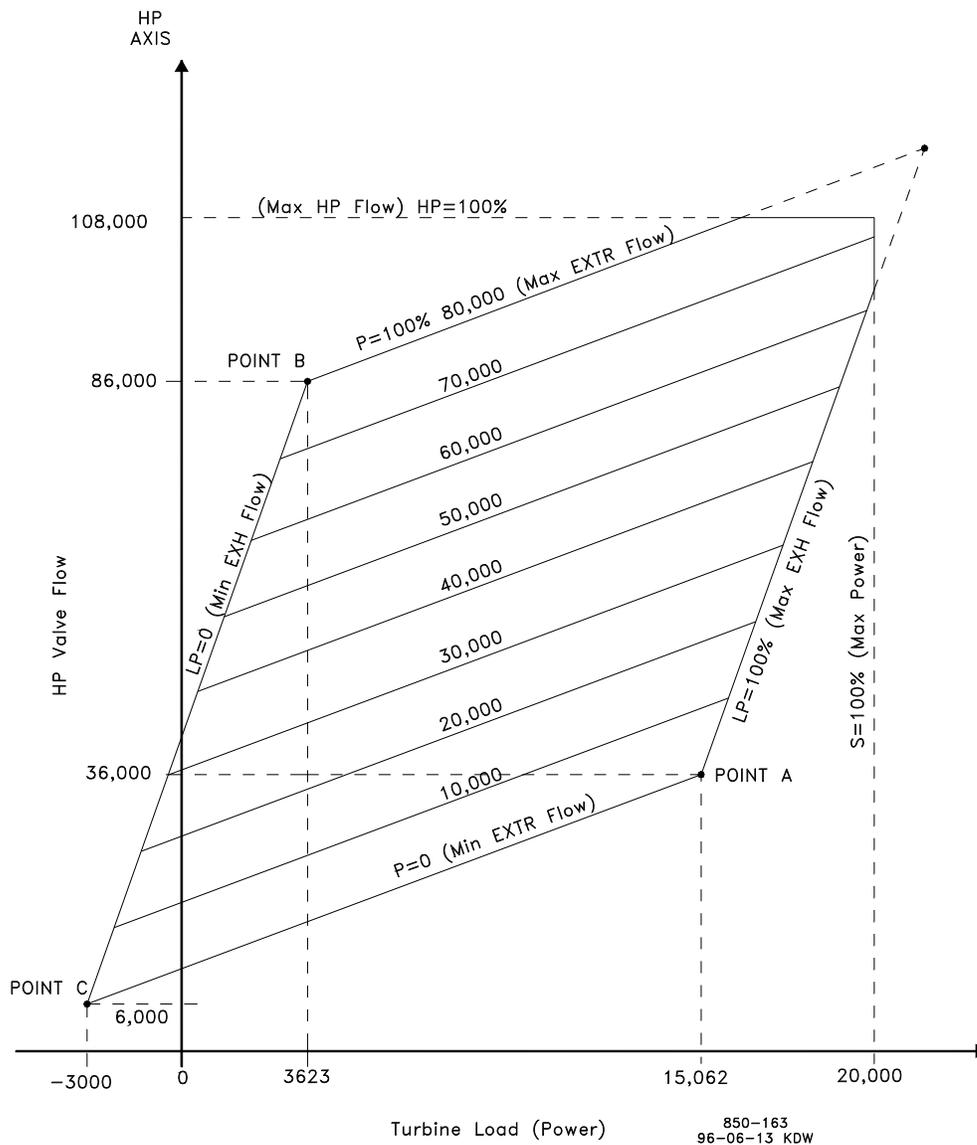

Figure 3-23. Typical Extraction Steam Map
Before a turbine's admission steam map can be programmed into the control, it must have the intersection points A, B, & C (refer to Figure 3-23).
If only point A exists, your map must be modified to include points B & C. The LP=0 line will need to be created. To create the LP=0 line, you must know the minimum required steam flow through the back end of the turbine. Based on the example steam map (Figure 3-23), the minimum required flow was 10 000 lb/h (4536 kg/h).
1. Extend the zero admission (or induction) line ($p=100\%$). Refer to Figure 3-23.
The nine values needed can be taken from the converted steam map. An example has been provided using the steam map in Figure 3-23.
Before a turbine's extraction/admission steam map can be programmed into the control, it must have the intersection points A, B, & C (refer to Figure 3-23).